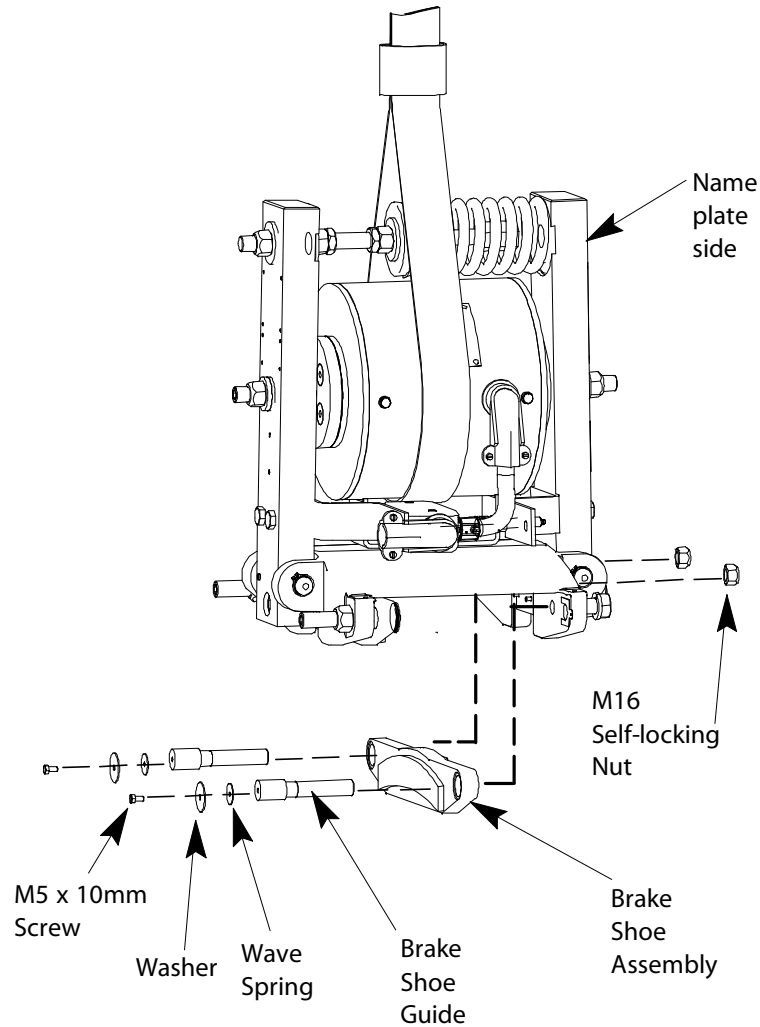

Figure 9 - Brake Shoe Removal
- b. Slide the brake mount under the bolt head and lockwasher. See Figure 9.
- c. Install the three (3) remaining bolts and lockwashers.
11. Use a choker arrangement to install the hoisting strap around the coil. See Figure 9.
13. Remove the following items from the sheave brake. See Figure 9.